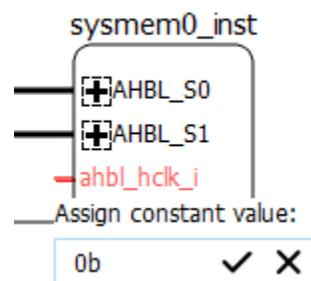

Figure 2.59. Dialog Box of Assigning Constant Value to an Input Pin
2. A small dialog box appears (Figure 2.59). Enter the desired value. To erase the value and start over, click X. For all buses (more than one pin), the format is hexadecimal. Make sure the value fits the number of pins in the bus. For example, a 3-pin bus can accept 0-7, but not 8.